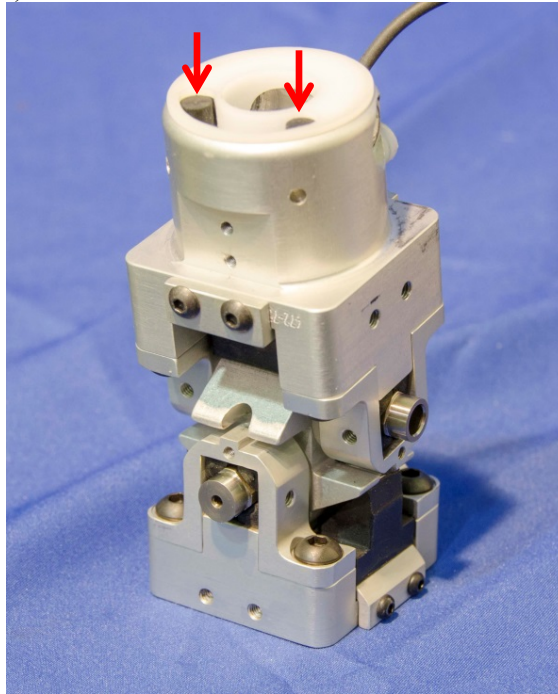

Figure 12-43. Insert torque cylinders into ankle top torque base
- 12.2.2.26 Insert two Torque Cylinders into the Ankle Top Torque Base (472-7580) (Figure 12-43).